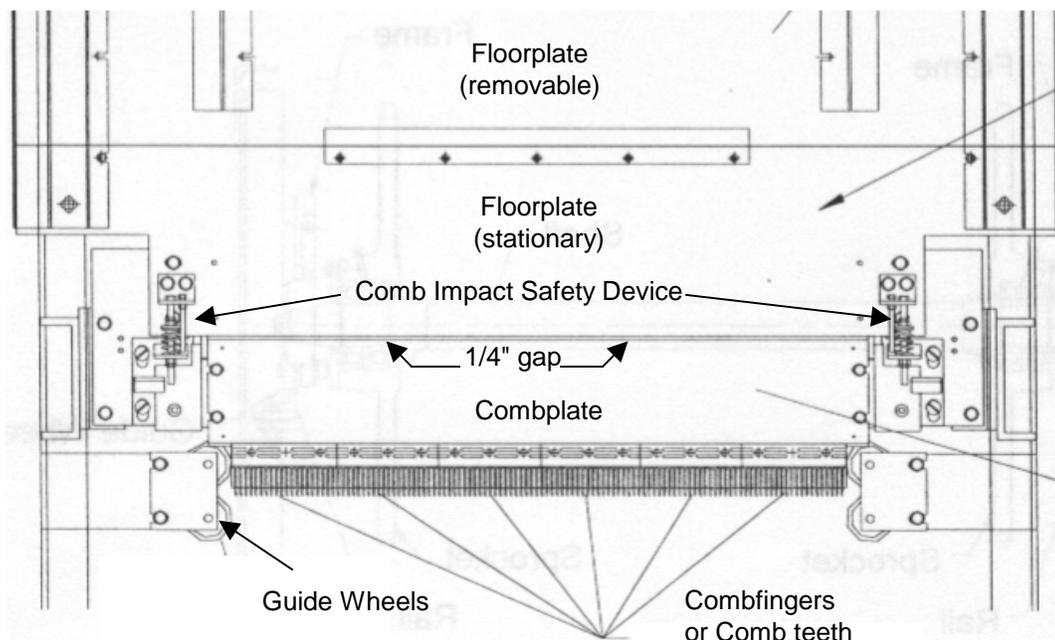
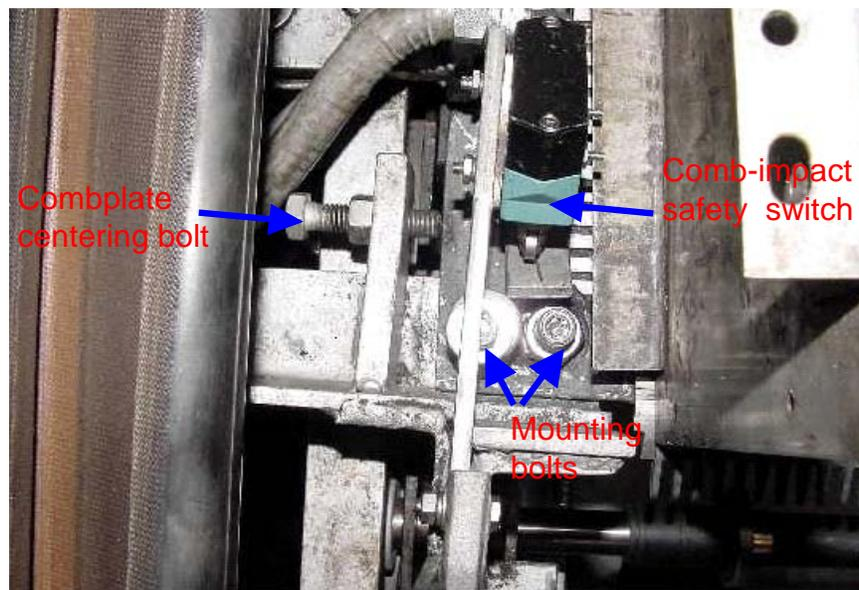
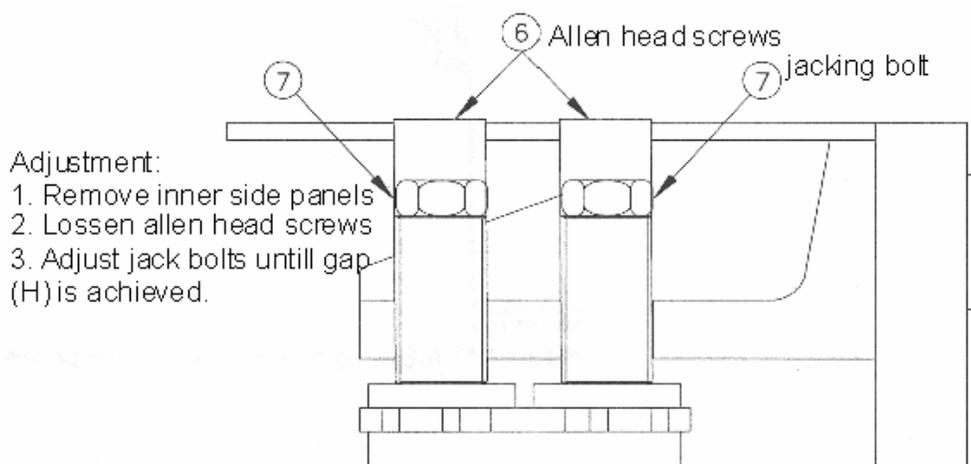

Figure 8-6c Fujitec Escalator Landing Plate Assembly
Figure 8-6d Westinghouse escalator combplate centering bolt and comb-step impact safety switch
Figure 8-6e O&K Combplate Support comb segment to step clearance
- **Tracks or guides** misaligned or worn. Remove five steps and move missing steps above the tracks/guides at the bottom and top landings. Check for wear or misaligned tracks. Inspect track support brackets and fastener to be secured. See items 3, 4, 5, 6, 10, 11, & 12 below.
- **Step slide strip** (item 46 below) or **guide wheels** (figure 8-6c p7) of the landing plate assembly may be misaligned or worn. Clean step slide strip and guide wheels, inspect for wear and secured fasteners. Add or remove shims to center the steps treads through the combs. Replace worn guide wheels in set.
Clean the landing/cover plates include the floorplates, combplates and combfingers, and guide wheels or step guides (figure 8-6c below).
If improper indexing is common to all steps, access, clean and inspect landing plate assembly guide (figure 8-6c wheels on Fujitec), the combplate centering bolts of Westinghouse (figure 8-6d p8), or similar step centering assembly. Replace failed parts, guide wheels, and adjust as necessary.
Access, clean, and adjust LH and RH combplate jacking bolts (Westinghouse figure 8-6d above, or O&K side support figure 8-6e) for proper combplate elevation and the combfingers to mesh below the top of the step tread.